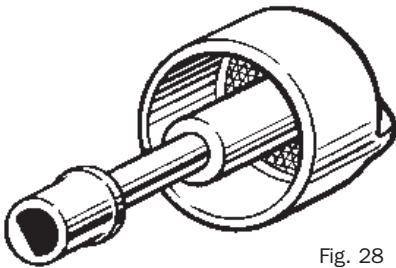

Fig. 28
6. **Installing flow control knob, Fig. 28**